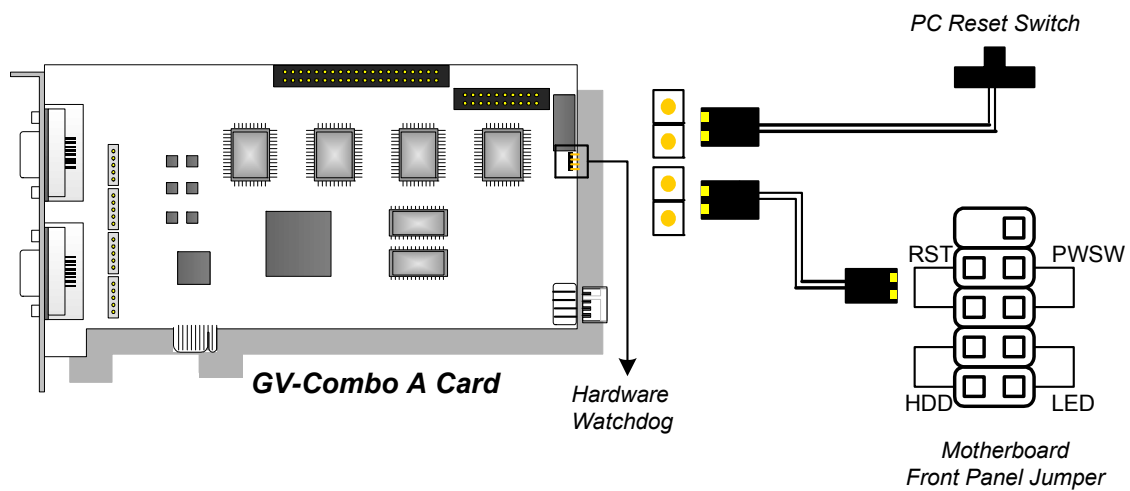

Figure 1-33
- Connect the supplied Hardware Watchdog Jump Wire (Figure 1-33).
- **Hardware Watchdog Connection:** Connect the supplied Hardware Watchdog Jump Wire to the Master Card only (Figure 1-33).